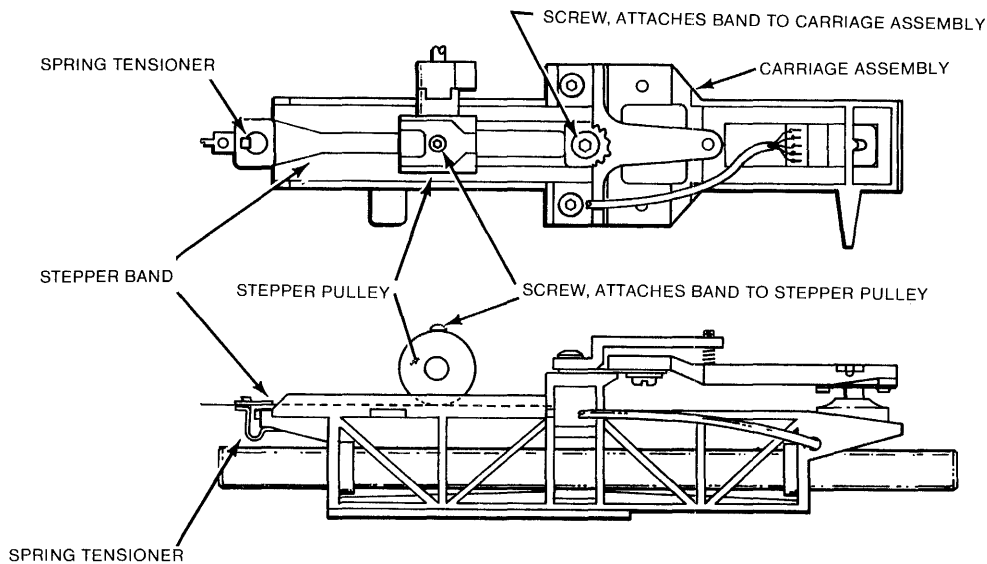

Figure 5-20
- B. Lift off the stepper band from the spring tensioner (see Figure 5-20).